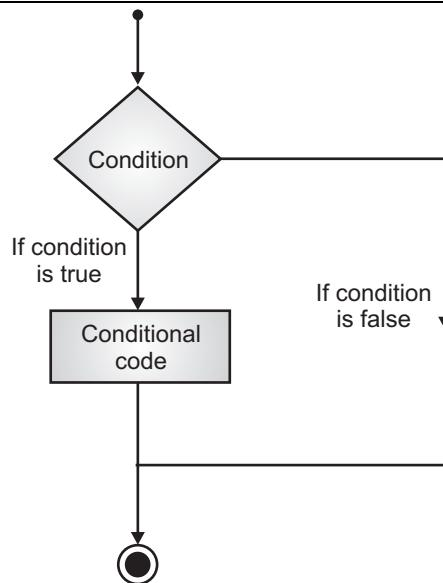

Fig. 3.3: Flow control structure
- As shown in above Fig. 3.3, flow control structures are nothing but decision making structures. It is usually represented in the form of flowchart with specified boxes. There are rectangles, diamonds and arrows. Each box represents a unique action.